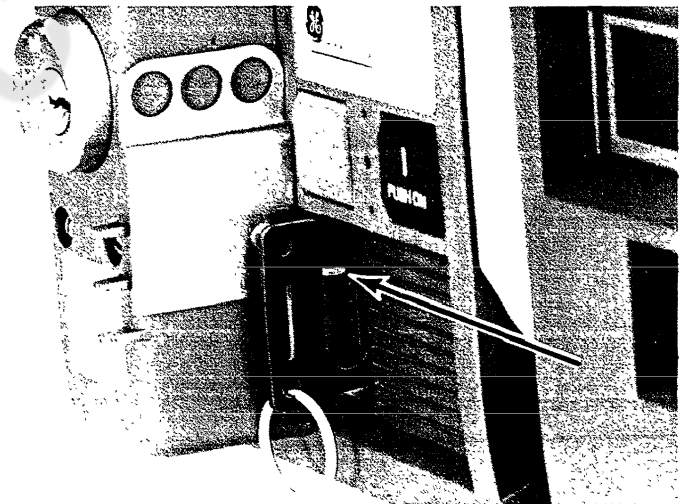

Figure 2. View of the breaker, showing the padlock hasp held extended by the Key Interlock.
3. Turn the key, securing the padlock hasp in the extended position, as illustrated in Figure 2. The breaker cannot be closed until the Key Interlock is disengaged.
12. Attach the split ring through the lower  $\frac{5}{32}$ "-diameter hole in the nylon-coated hasp, as shown in Figure 2. (Omit this step if a Door Interlock, Cat. No. SPDIL, is installed.)